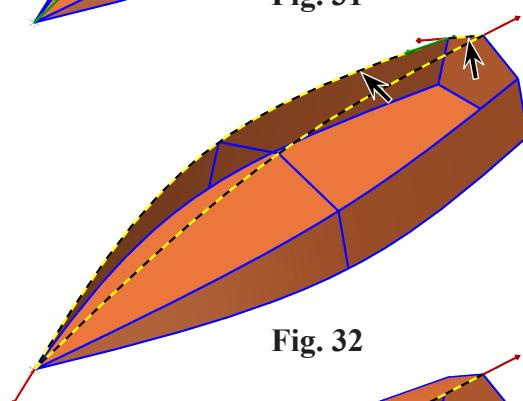

Fig. 32
Step 4. Walk Chain around the rear and side spline in direction of Chain arrows, Fig. 32.